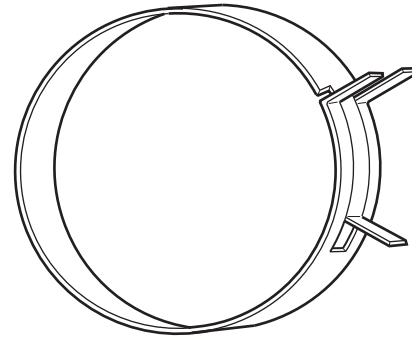
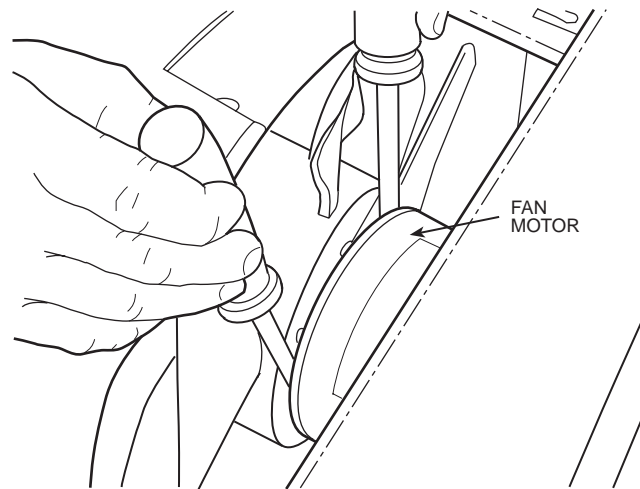

FIGURE 65 — SPRING CLIP
FIGURE 66 — REMOVING OUTDOOR FAN FROM MOTOR SHAFT
10. **WEAR SAFETY GLASSES!** Using the adjustable pliers, carefully remove the spring clip that secures the fan to the fan shaft. See Fig. 65. Using 2 screwdrivers, gently slide the outdoor fan off the motor shaft. See Figure 66.